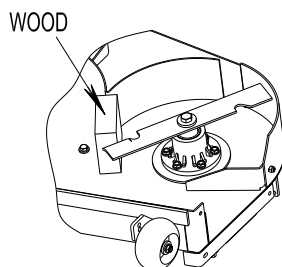

FIG 5 BLADE INSTALLATION
- d) Re-install the blades (if they were removed) by placing a block of wood between the front or rear baffles and the blade, then torque the blade bolts to 115-120ft-lbs(156-163N-M). Be sure the spring disk washer cone is installed toward the bolt head. (See Figure 5).